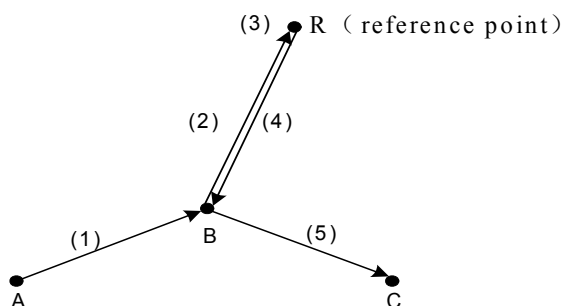

Fig. 3-3-1-1
1. The action of block G28 can be divided as follows: (refer to Fig.3-3-1-1):